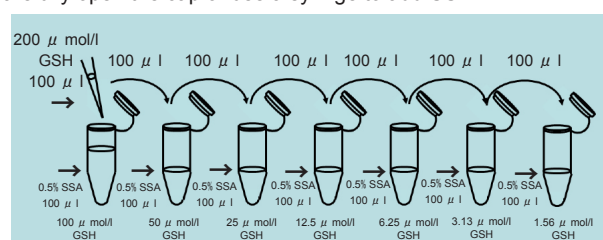

Fig. 2 Preparation of GSH standard solutions.
- 2) Dilute 100 μl of 200 μmol/l GSH standard solution by serial dilution with 100 μl of 0.5% SSA in plastic tubes as indicated in Fig. 2.